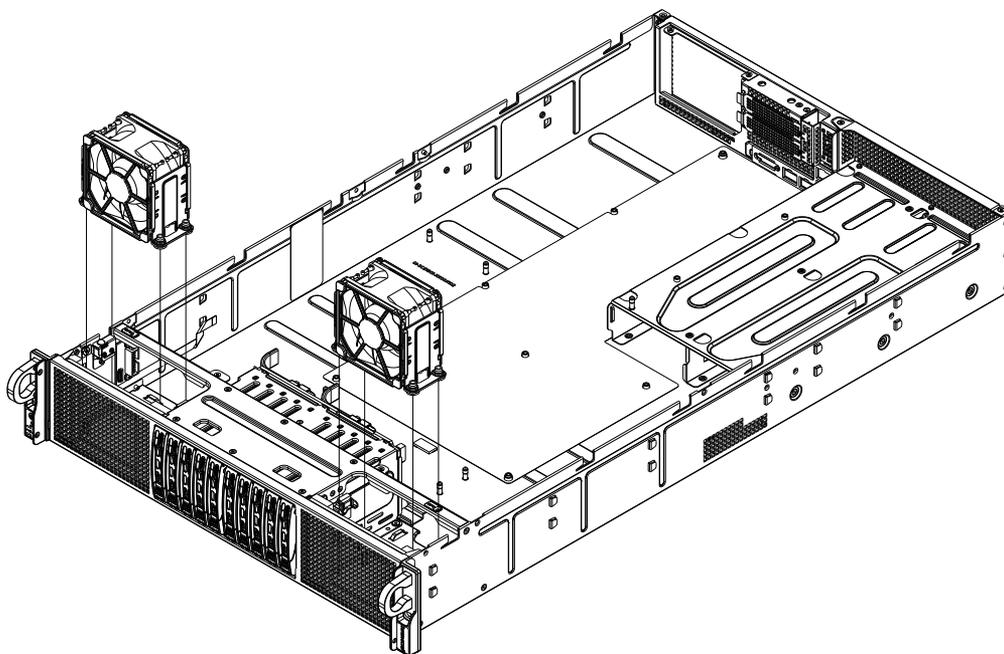

Figure 6-5 Front System Cooling Fan Access Example
1. Remove the chassis cover to access the fans, see the example in Figure 6-5.